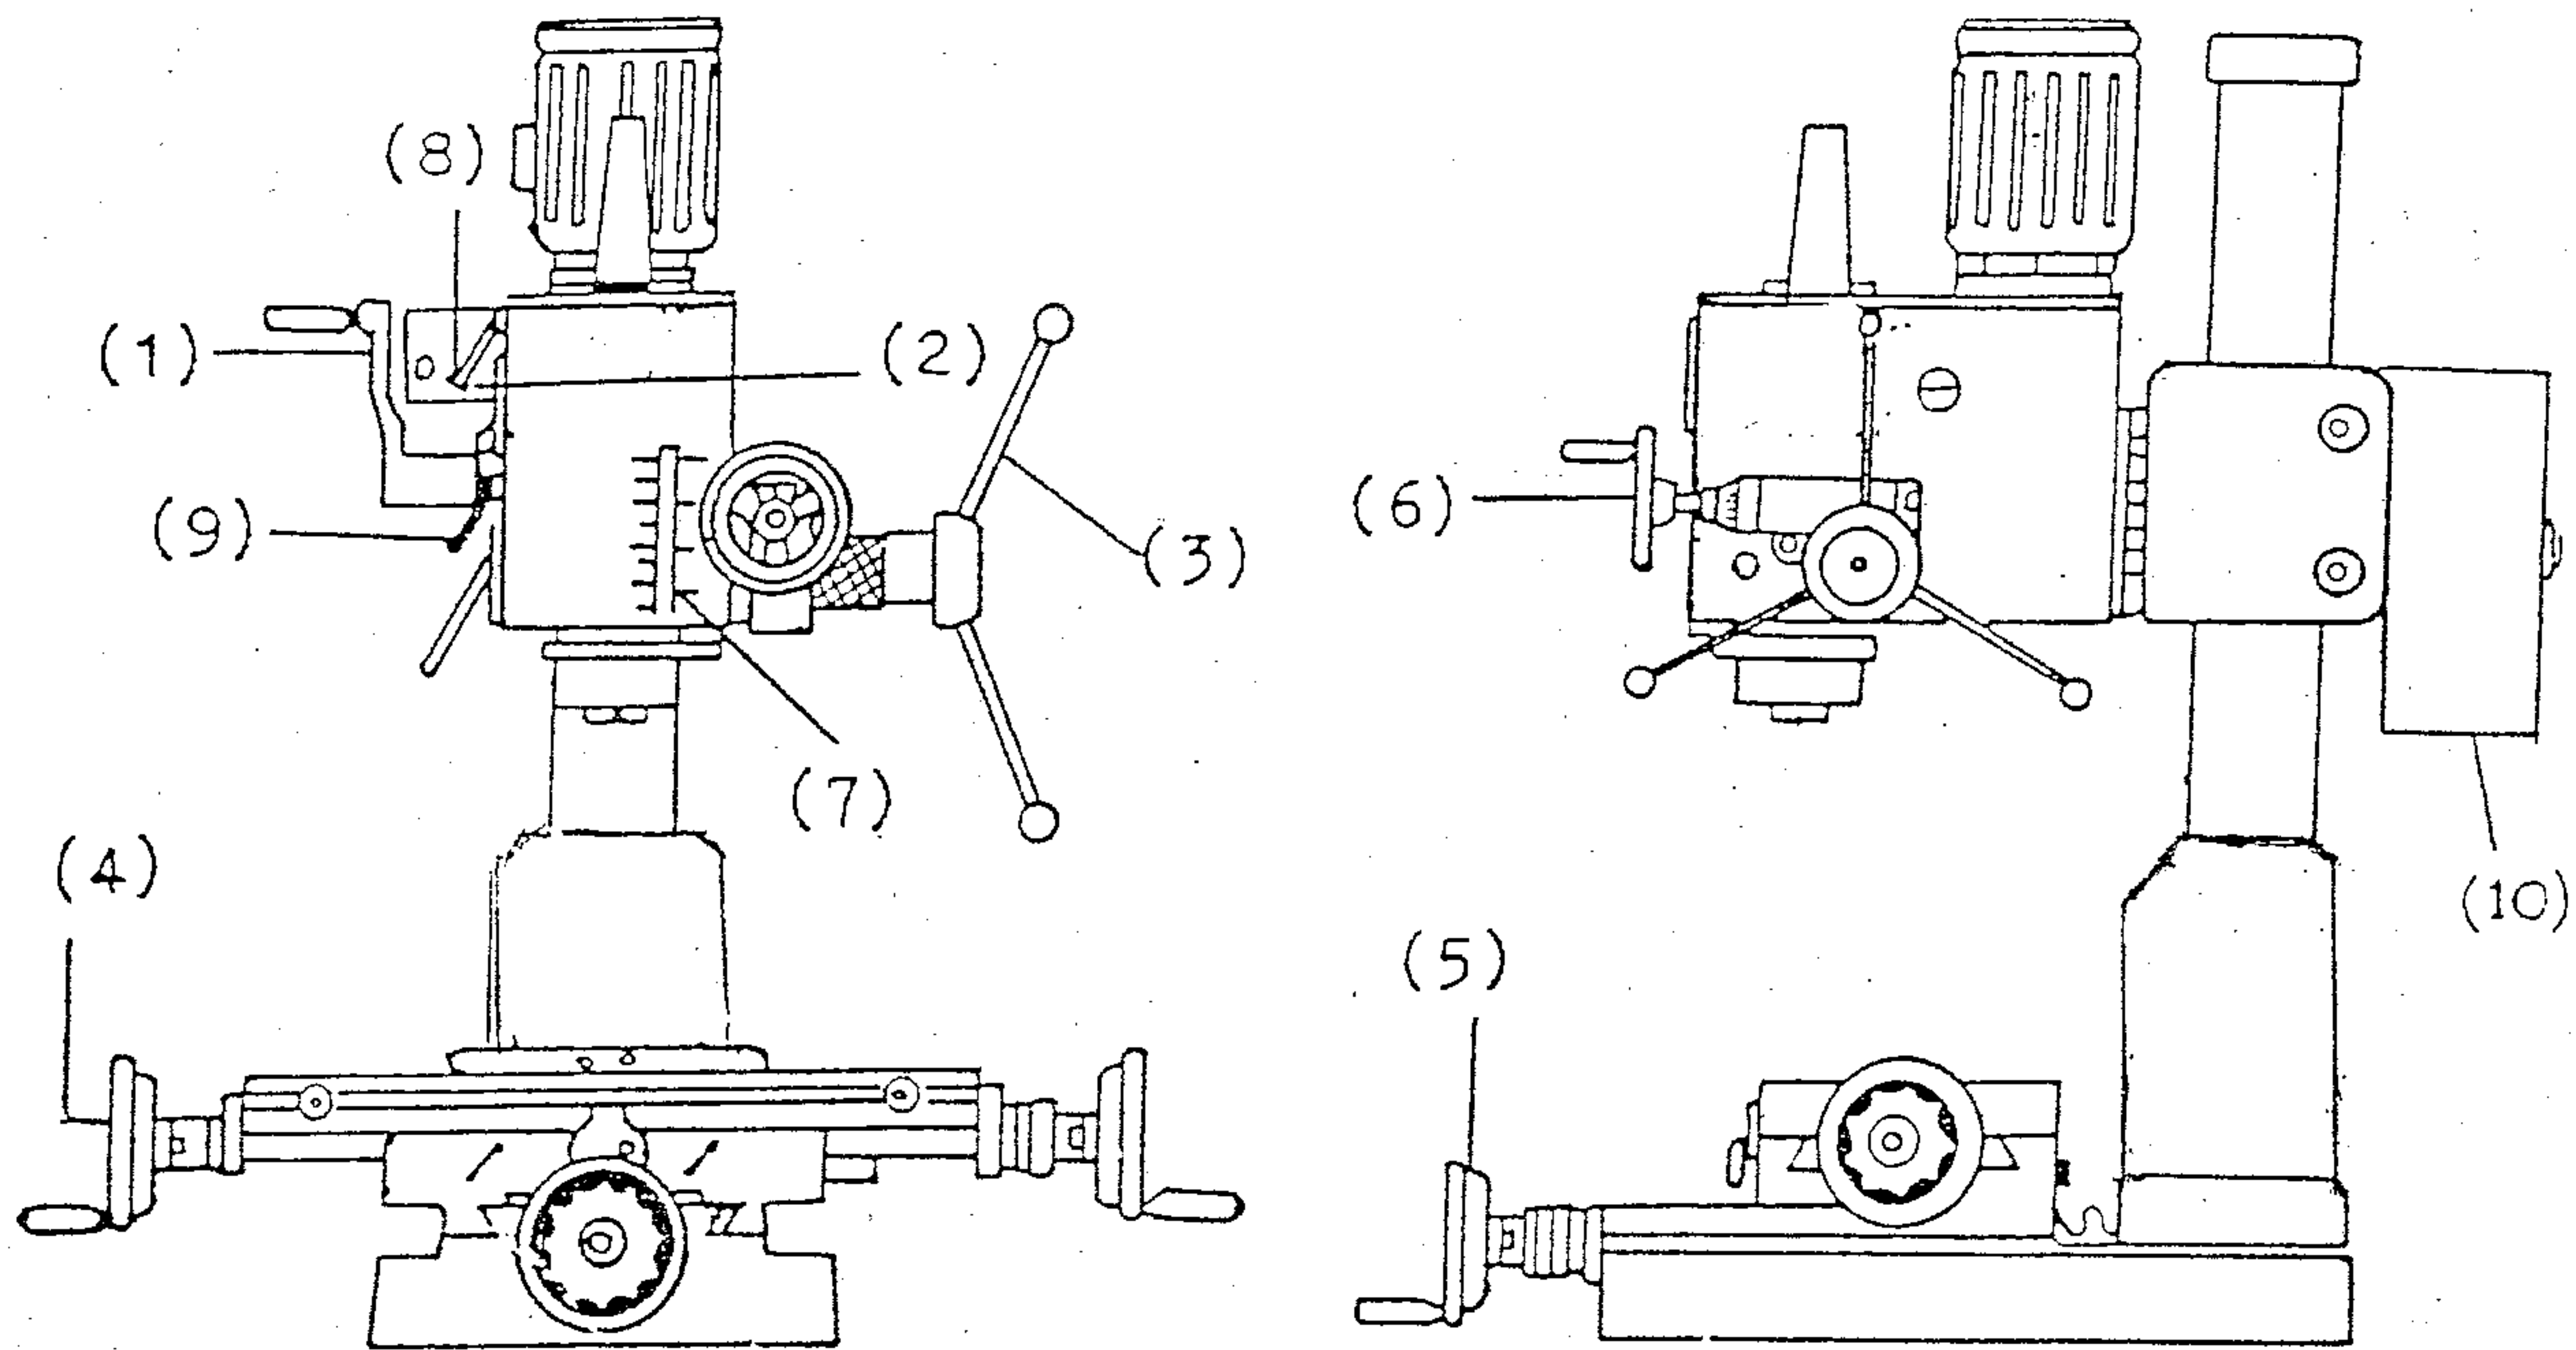

FIG 2
- (1) THE MACHINE HAS BEEN COATED WITH A HEAVY GREASE TO PROTECT IT IN SHIPPING. THIS COATING SHOULD BE COMPLETELY REMOVED BEFORE OPERATING THE MACHINE. COMMERCIAL DEGREASER, KEROSENE OR SIMILAR SOLVENT MAY BE USED TO REMOVE THE GREASE FROM THE MACHINE, BUT AVOID GETTING SOLVENT ON BELTS OR OTHER RUBBER PARTS.
- (2) AFTER CLEANING, COAT ALL BRIGHT WORK WITH A LIGHT LUBRICANT. LUBRICATED ALL POINTS AS FIG.2.
- (3) LUBRICATING POINTS AS ARROWS INDICATED.
## 8. USE OF MAIN MACHINE PARTS (SEE FIG.2)